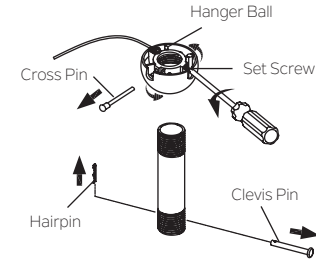

Fig. 6
Step 2. Remove the hairpin and clevis pin from the downrod assembly, retain for later use. Remove the hanger ball from the downrod assembly by loosening set screw, removing the cross pin, and sliding ball off the rod. (Fig. 6)